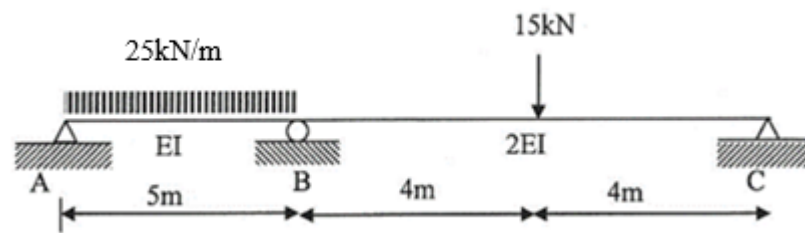

Figure B3(a)/Rajah B3(a)
A continuous beam as shown in Figure B3(a) is subjected to point load and uniformly distributed load. By using the Moment Distribution Method:
- CLO1 (a) Identify the value of Fixed End Moment (FEM) for each member in Figure B3(a)